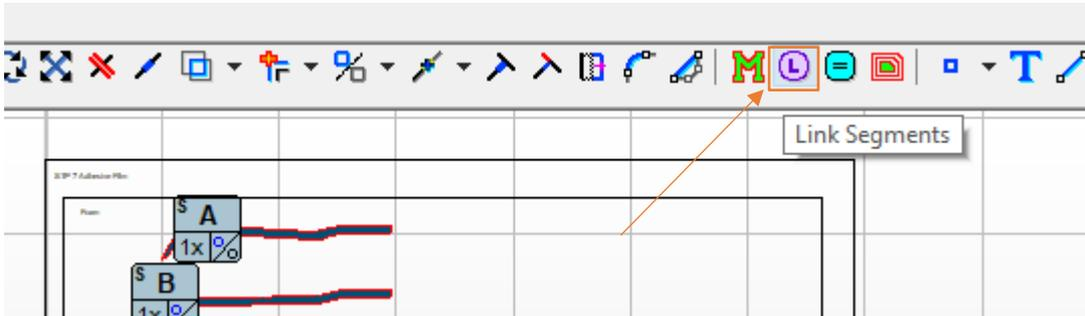

Figure 301
- 97. Select the Link tool in our main tool bar  (Figure 301).